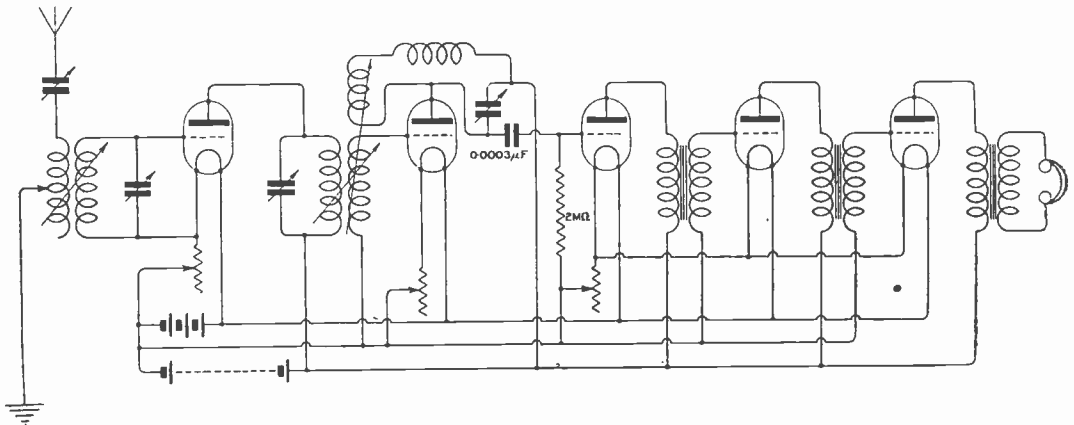

Fig. 4.
(1) The circuit shown is of quite good type. You might add a switch to enable you to connect in series the A.T.C. for short wavelengths. It is unlikely that reaction of this type will be allowed in the future. (2) As you do not give us any clue to the nature of the variations we cannot help you much. Your aerial insulation may be defective, or the earth variable and poor. Carefully built up, your circuit should give as good results as most others given in these columns. (4) Set might become approximately that as shown in Fig. 4, page 706, August 26th issue.